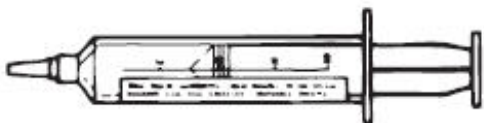

Figure 4. Syringe with cap and label
9. Peel the backing from the label and attach the label to the syringe, making sure not to cover the volume indicators on the syringe (Figure 4).